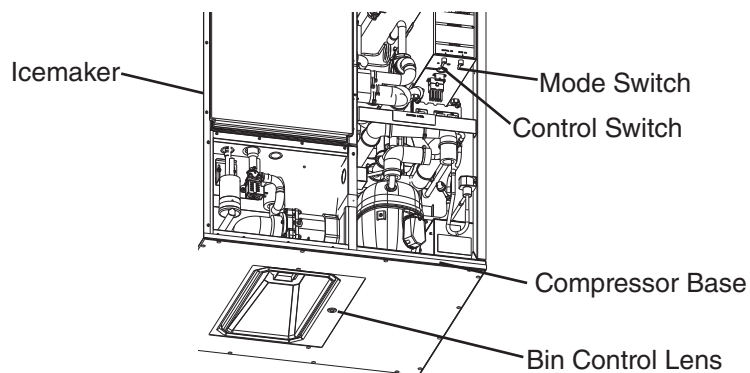

Fig. 5
- 1) Remove the front panel. Move the control switch to the "OFF" position, then remove the top panel, right side panel, and control box cover. See Fig. 5.
- 3) Place the mode switch in the "ICE" position, then move the control switch to the "ON" position. See Fig. 5.